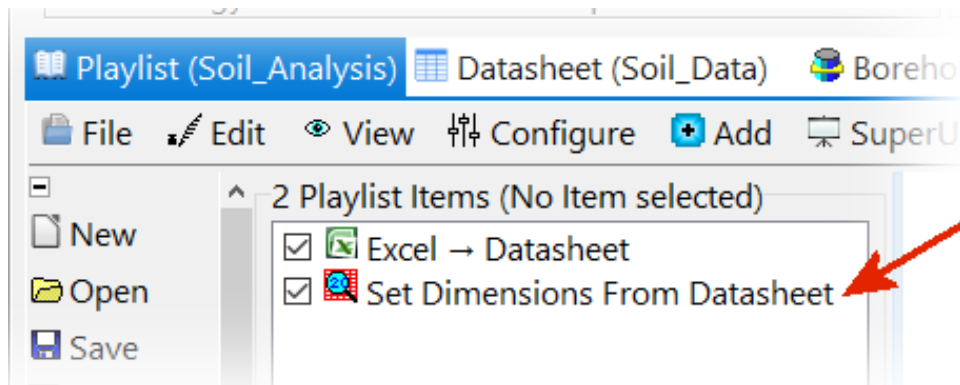

Figure 20
- This will add the re-dimensioning process to the Playlist (Figure 20).